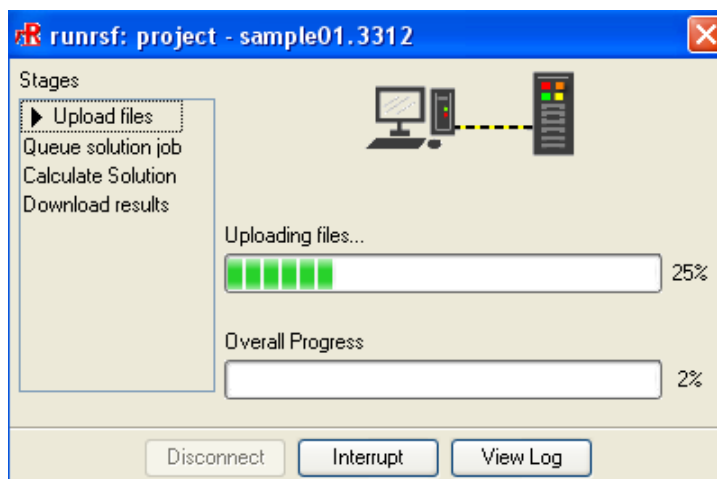

Figure 27.11.14: The runrsf Panel (Update files Stage)
- (b) Click **OK** to close the **Connect to Remote Simulation Facility** panel and begin the remote simulation. Once processing begins, a separate **runrsf** progress panel will open and will monitor the job. The panel will display the four stages of running your project on the RSF: **Upload files**, **Queue solution job**, **Calculate solution**, and **Download results**. As the RSF project runs, the stages will be updated in the panel. These stages are shown in Figures 27.11.14 – 27.11.17.